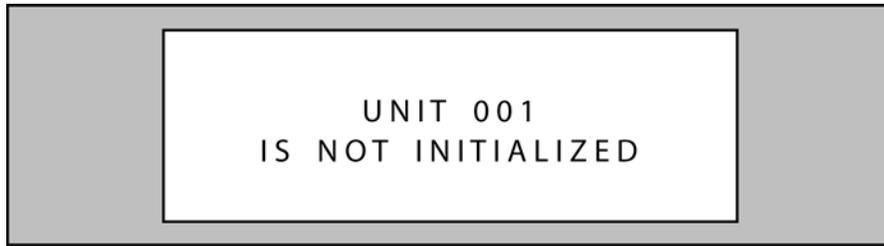

Figure 28: Not Initialized Unit Warning
Once the memory has been cleared, the unit is ready to be configured. The LCD will display a warning that the unit has not been initialized (see Figure 28 on page 23). This display will rotate with the EntraGuard Default display (see Figure 29 on page 23) until a Total Update from *Doors* has been performed on the unit. Once an update has been performed, only the default will be displayed.
1. Press 1 to clear the controller's RAM. The LCD will change to show the memory is being cleared (see Figure 27 on page 22). Once the controller's RAM has been cleared, the unit is ready for use. The LCD will rotate between the Initialization Warning and EntraGuard Default screens (see Figure 28 on page 23 and Figure 29 on page 23) until a Total Update from *Doors* has been performed on the unit.